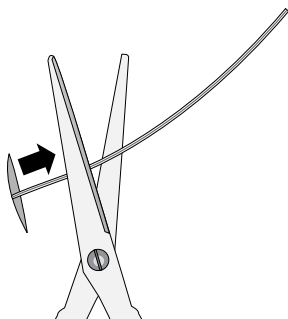

Figure 27. Withdraw the external segment of the percutaneous extension.
1. Withdraw the external segment of the percutaneous extension approximately 1 cm (0.4 in.) from where it exits the skin (Figure 27).